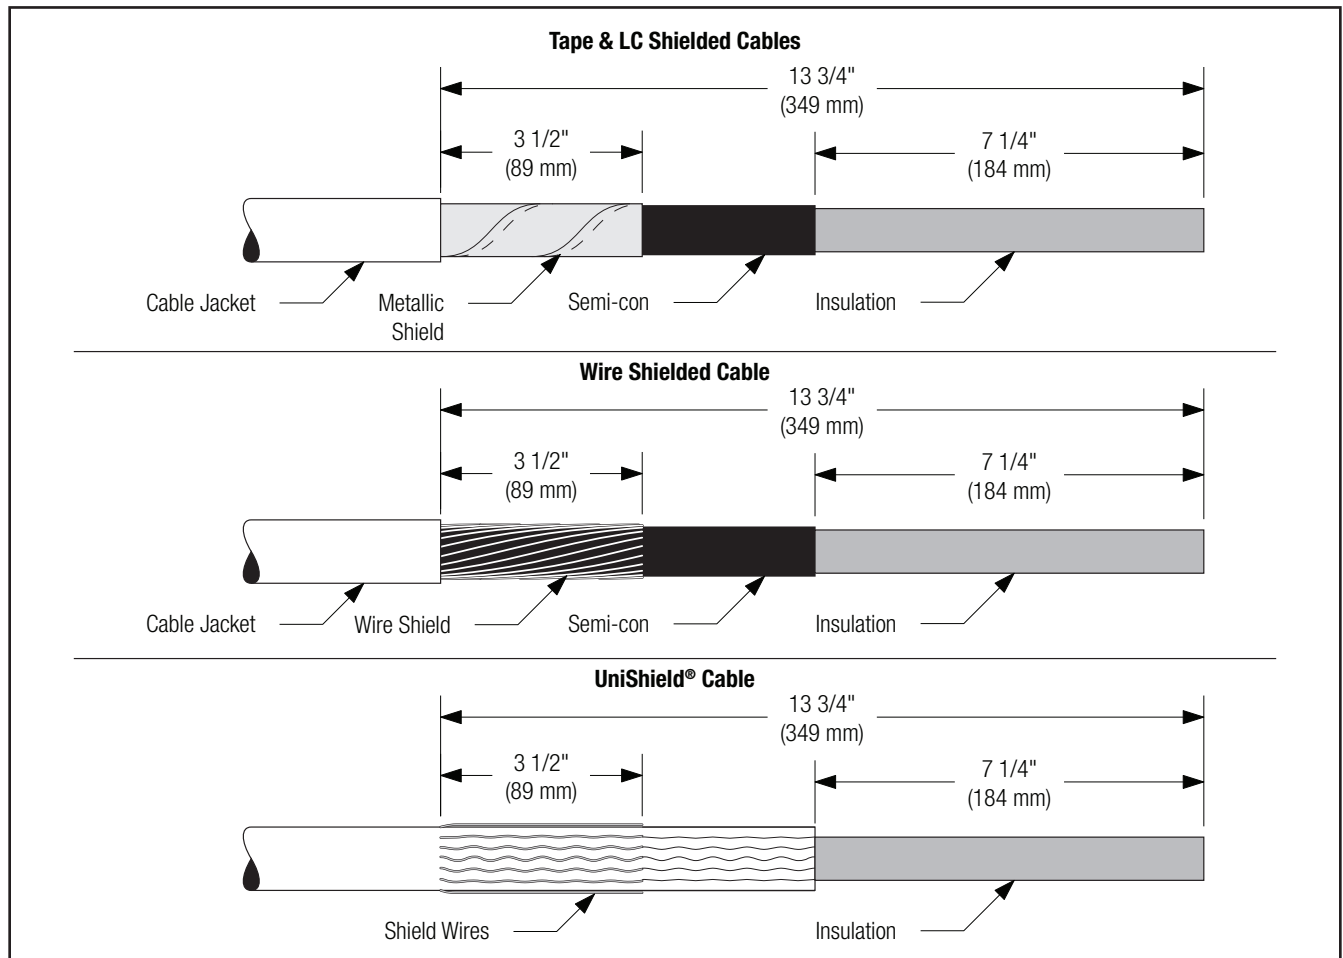

Figure 1
2.1.1 Prepare cables according to standard procedures. Refer to template provided or illustration below for proper dimensions. (Figure 1).